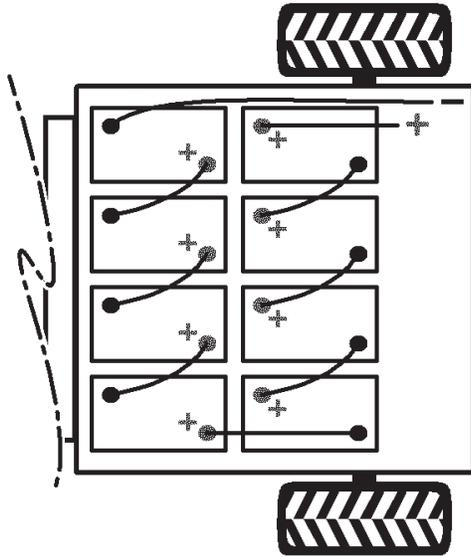

Figure 32
2. Disconnect the long, black, main negative lead running from the bank of batteries to the vehicle from the battery post (Fig. 32).
3. Remove the long, red, main positive lead running from the bank of batteries to the vehicle from the battery post (Fig. 32).
Note: Pay attention to the battery polarity when installing the new batteries (Fig. 32).
9. Connect the batteries together with the battery cables removed previously, as illustrated in Figure 32.
10. Connect the long, red, main positive lead between the bank of batteries and the vehicle (Fig. 32).
11. Connect the long, black, main negative lead between the bank of batteries and the vehicle (Fig. 32).